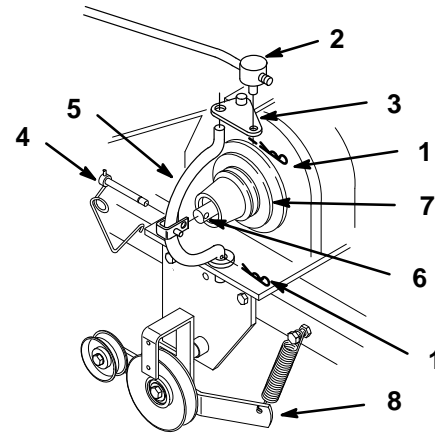

Figure 19
4. Pull on idler arm spring to relieve belt tension and remove tiller drive belt from tiller pulley and slide belt out of groove (Fig. 19).
5. Remove hairpin cotter and trunnion from power take off PTO engagement plate (Fig. 19).
6. Unlatch and remove clevis pin that secures yoke assembly to clutch shaft and pivot forward to remove from engagement plate (Fig. 19).
7. Remove belt from between clutch yoke and engagement plate (Fig. 19).
8. Assemble yoke and engagement plate and attach clevis pin, trunnion and hairpin cotter to secure (Fig. 19).